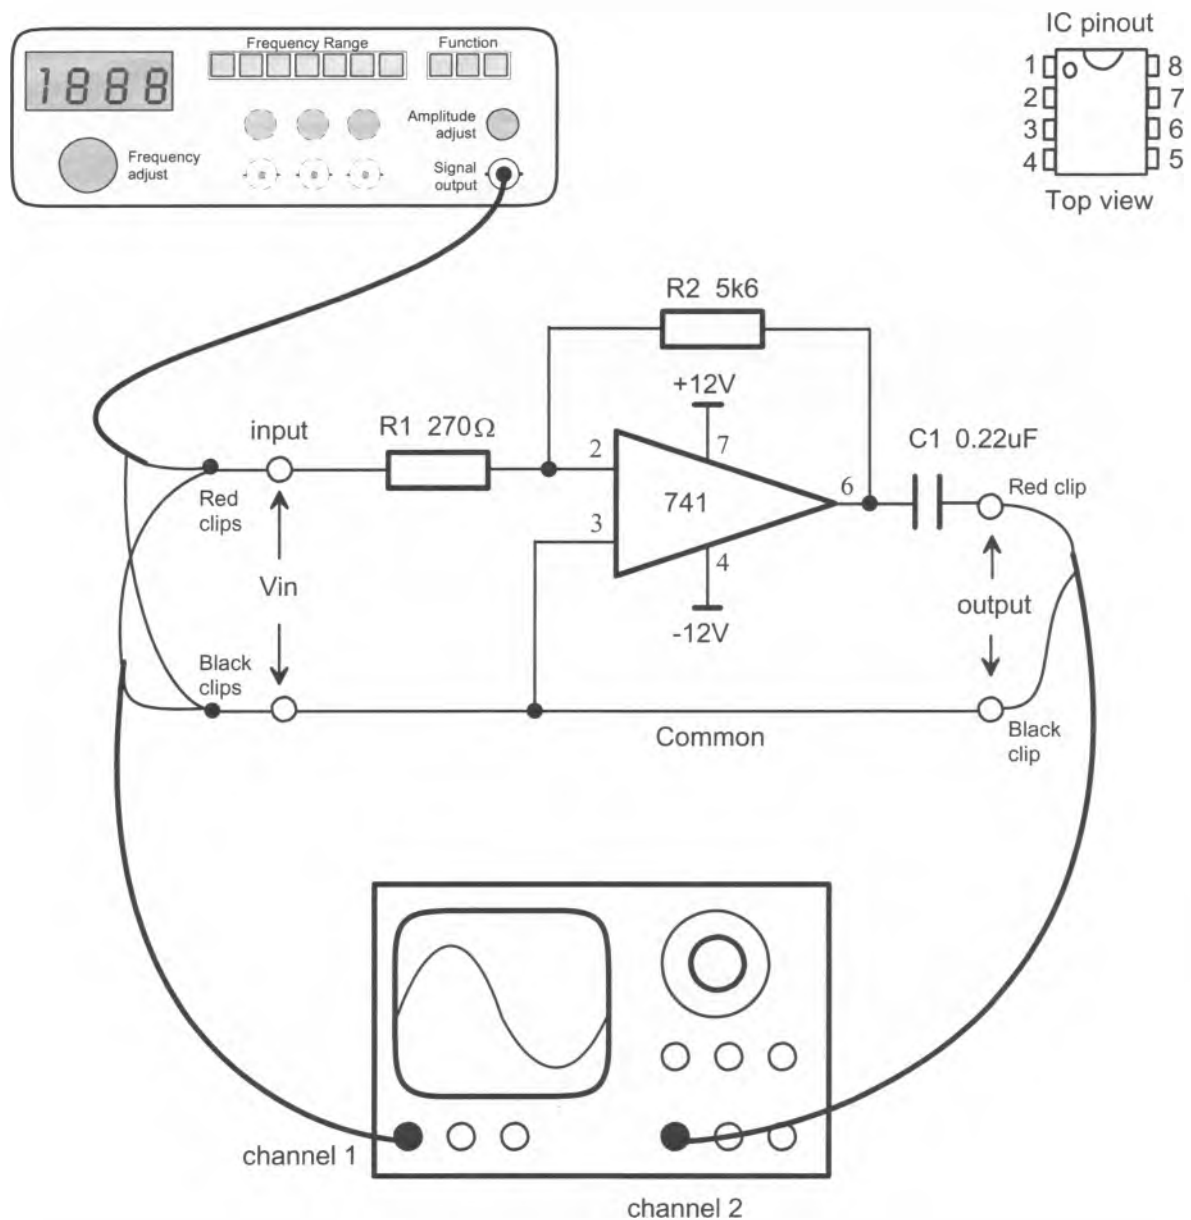

Figure 1
3. Wire the circuit of Figure 1.